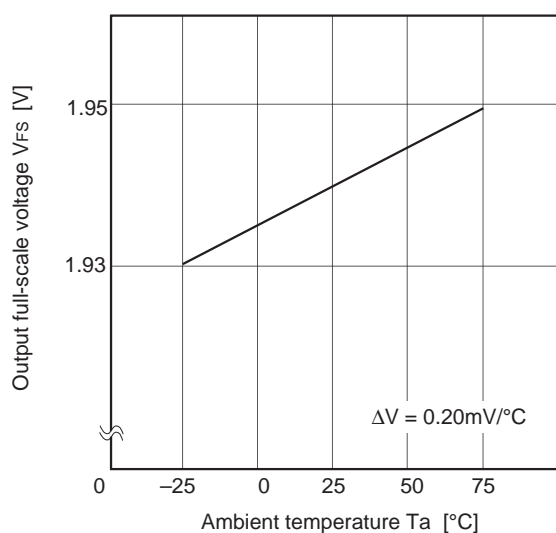

Fig. 4. Ambient temperature vs. Output full-scale voltage
- Fig. 4 includes the temperature characteristics of external metal film resistor.